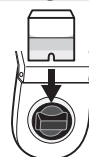

Fig.4
6. Insert the cell into the cell box. (Fig.4)